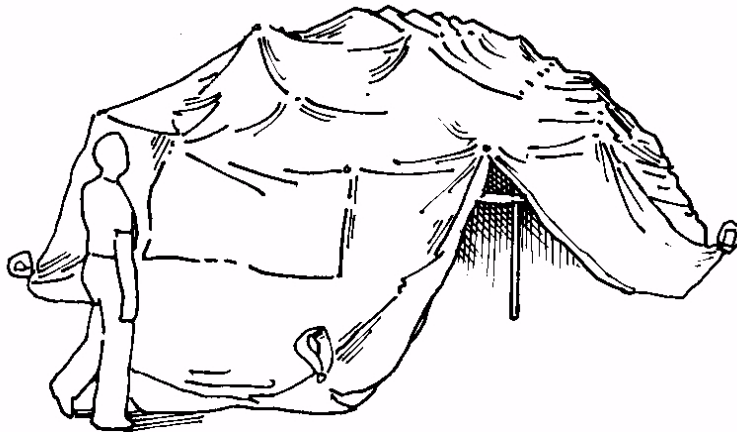

Figure 2-6. Inspect Shelter for Obstructions
4. Prior to the final push, each person should check that the doors are not caught on any hubs or between the struts (see Figure 2-6). Fabric that is snagged will prevent the shelter from easily pushing to full height.